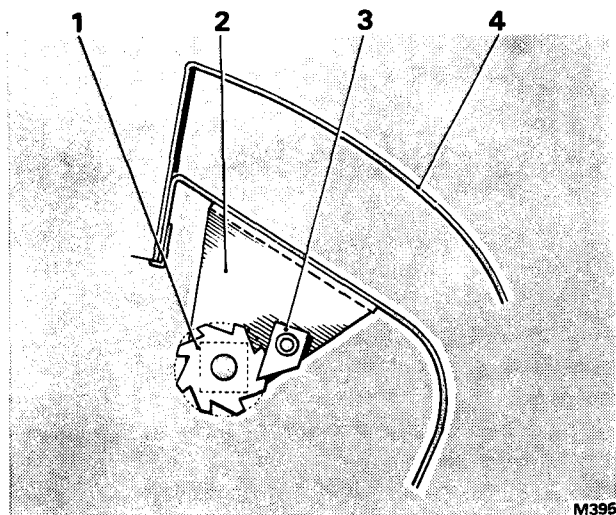

FIG. S62 TENSION ROLLER SHOWING THE PAWL ATTACHED TO THE ROLLER BRACKET
When the tension has been released, indicated by the roller ceasing to rotate, lift the socket end (left-hand side) of the roller out of the slotted bracket, then detach the ratchet end (right-hand side) from the pawl bracket (see Fig. S62); remove the tension roller.
(see Figs. S62, S63, S64 and S65)
7. Fit the roller to the brackets on the division; ensure that the pawl attached to the right-hand bracket is securely engaged in the ratchet wheel on the roller. (see Fig. S62).